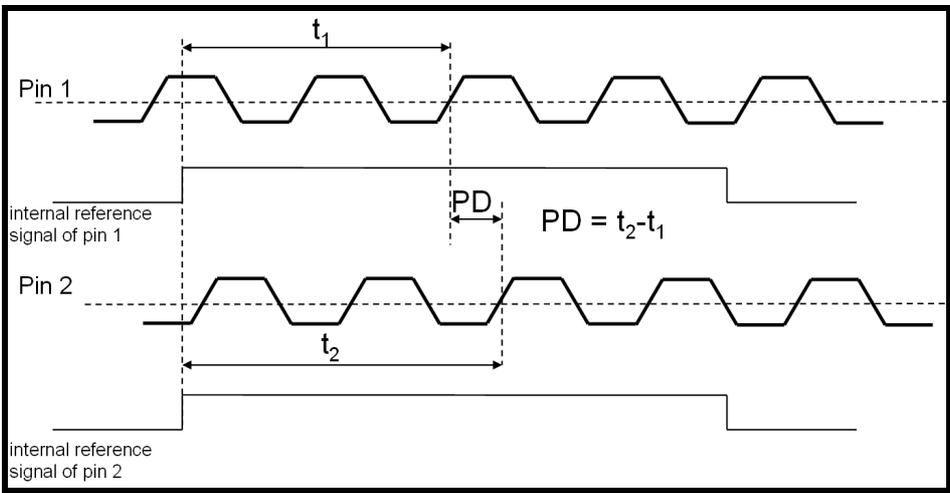

Fig. 6: Measurement between two pins (propagation delay (PD))
Measurements between pins (propagation delay (PD), skew) are derived from individual measurements on each pin against the internal reference signal (see Fig. 6)